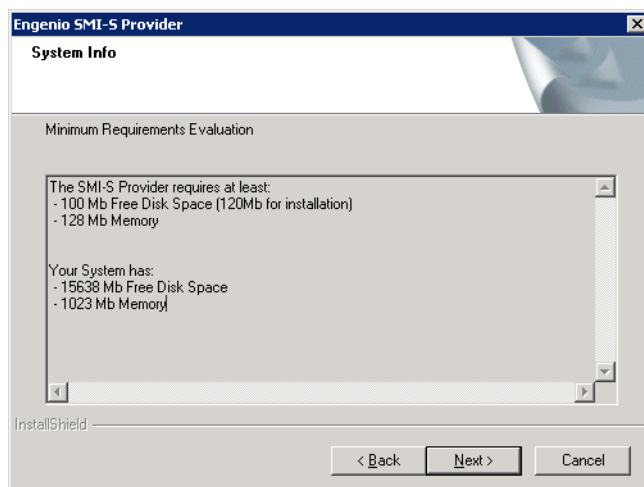

Figure 7-5 Minimum System Requirements window
4. The System Info window opens. The minimum requirements are listed along with the install system disk free space and memory attributes, as shown in Figure 7-5.